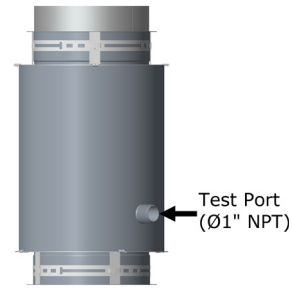

Figure 74 - Nozzle Length (NL)
The Nozzle Length NL is used when there is a need for test port. Same size as the Drain Length (DL). See Figure 74.